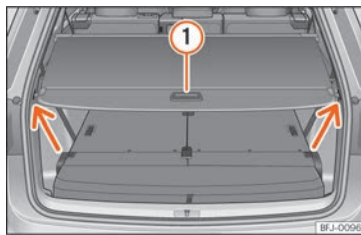

Fig. 152 In the boot: shelf of the boot closed.
- Pull the cover backwards with the handle » **Fig. 152** ① and remove it above the anchor point (arrows). Move the cover forward carefully.